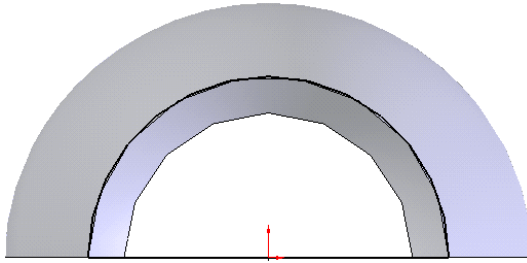

Figure 15-121 Sketch for creating the planar surface
- b. Create a planar surface to close the right face of the base surface, refer to Figures 15-121 and 15-122.
7. Create a closed sketch to create the planar surface as shown in Figure 15-121.